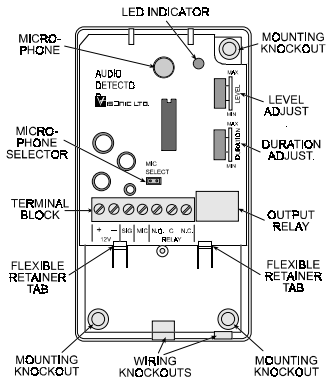

Figure 1. Printed Circuit Board Layout
The **ADU-1** draws its operating power from the 12 VDC source of the host system. The main components of the unit are presented in Figure 1, and technical specifications are provided in Sec. 5.
- Pierce two of the mounting knockouts and the wiring knockout (see Figure 1 for knockout locations).